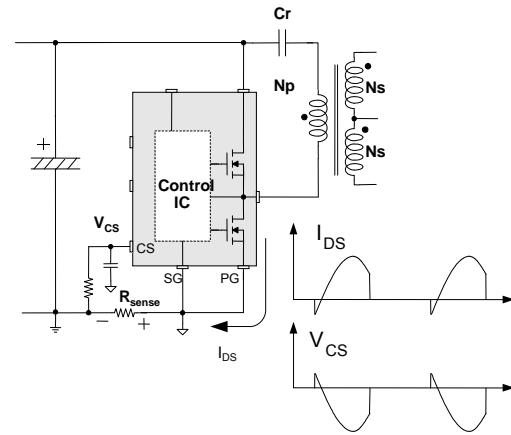
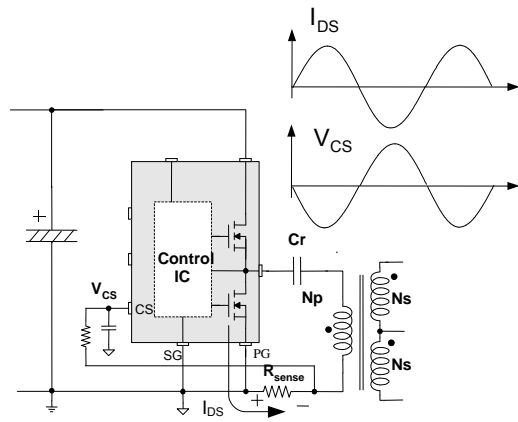

Figure 27. Half-Wave Sensing
Figure 28. Full-Wave Sensing
**8.1 Resistive Sensing Method:** The IC can sense drain current as a negative voltage, as shown in Figure 27 and Figure 28. Half-wave sensing allows low power dissipation in the sensing resistor; while full-wave sensing has less switching noise in the sensing signal. For a time constant range for the filter,  $3/100 \sim 1/10$  of the operating frequency is reasonable.